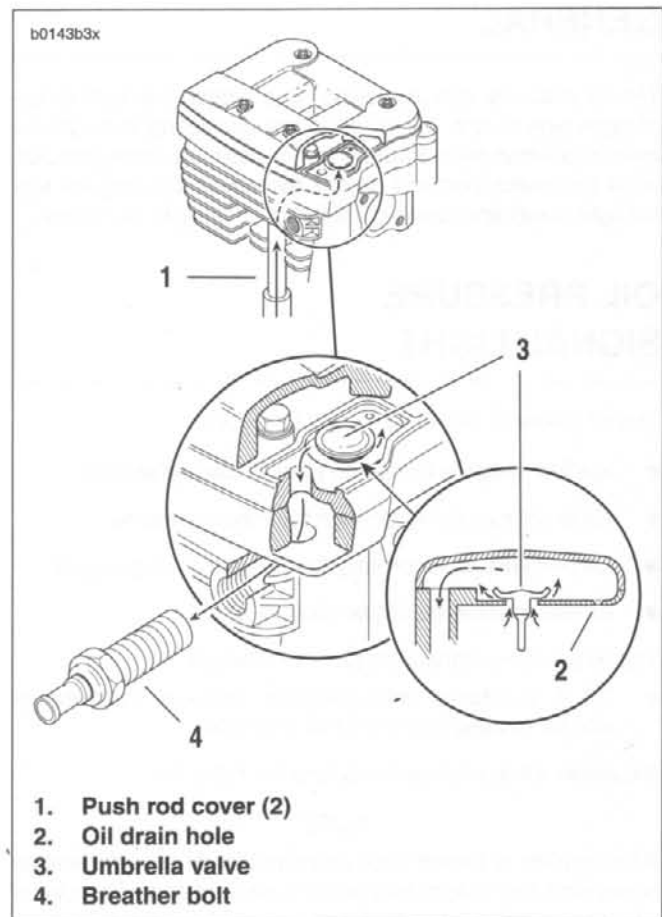

Figure 3-52. Crankcase Breathing System, Typical Cylinder
See Figure 3-52. On piston downstroke, a mixture of crankcase air and oil mist is vented up the push rod covers (1) through an umbrella valve (3) in each middle rocker box section.